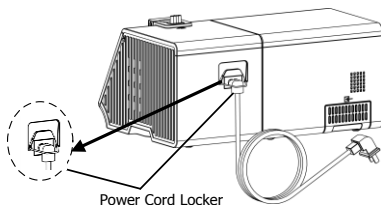

Fig. 11-4
- (2) Press the power cord locker, and fix the power cord and power connector. The function of the locker is to prevent the power cord falling off from the power port, as shown in Fig. 11-4;
- (3) Insert the power cord plug into the power supply socket.